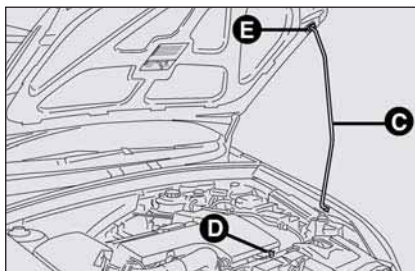

fig. 118
- lift the bonnet and at the same time release the rod **C fig. 118** from the catch **D**, then fit the rod end into the bonnet recess **E**.
## TO CLOSE THE BONNET fig. 118